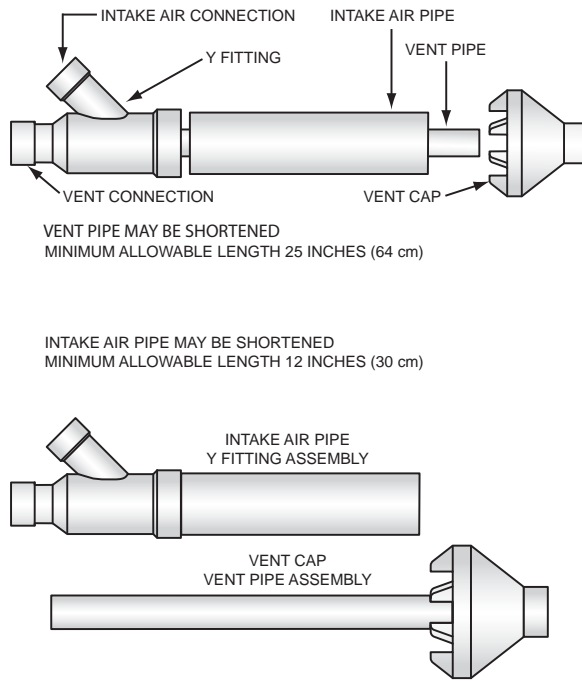
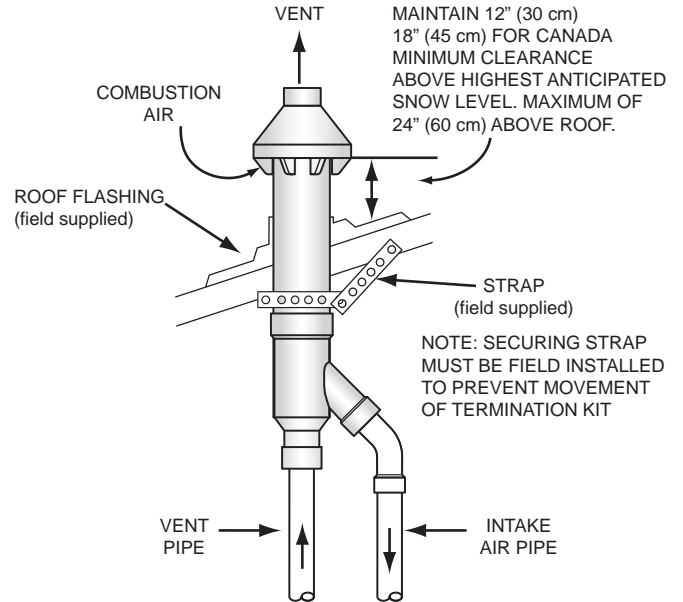

Figure 31. Concentric Termination Kit
Figure 32. Concentric Termination - Vertical Installation
3. When installing a concentric termination vertically through the roof; ensure that all exterior vertical clearance requirements for the concentric termination, shown in **Figure 32** (page 29), are being maintained. These clearances and those cited by local and national codes must be maintained.
- See **Figure 31** (page 29) for the minimum lengths allowed for the concentric termination.
Assemble and install the four-inch concentric termination. Refer to **Figure 31**, **Figure 32**, and **Figure 33** for these instructions: